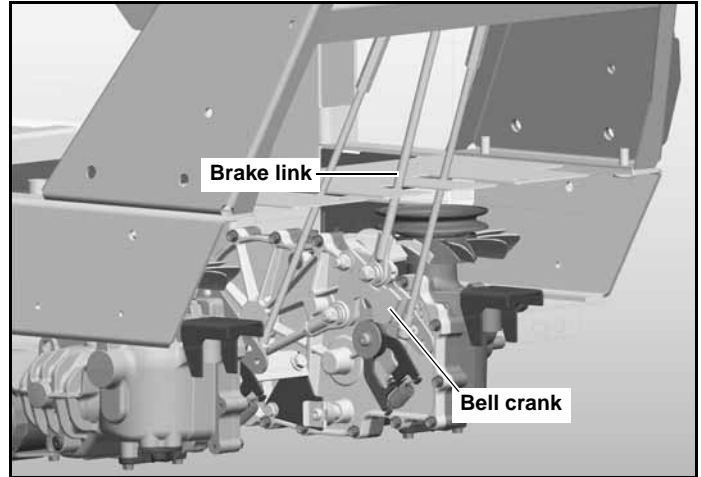

Figure 4-1
3. Remove brake link from lower brake bell crank. Figure 4-1
9. Re-attach the brake link to the lower brake bell crank. Figure 4-1